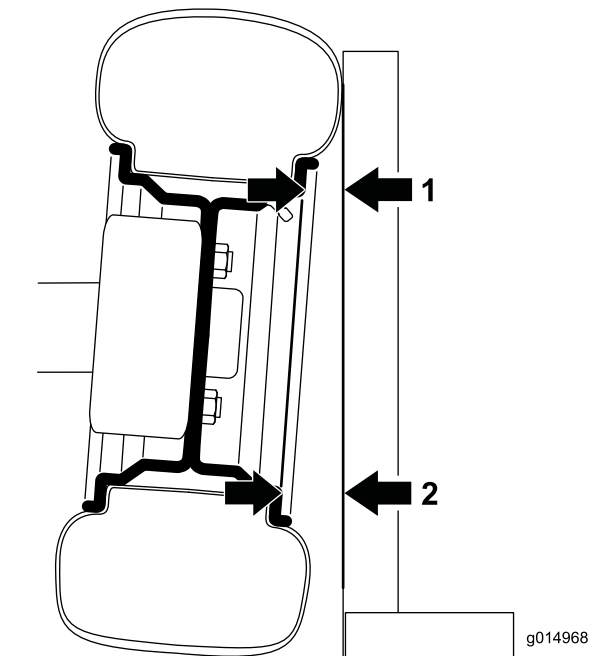

Figure 42
1. To check the camber, place a 90 degree square on the ground with the vertical edge touching the face of the tire (Figure 42).
2. Measure from the same part of the rim on the top and bottom of the tire to the square (Figure 42).